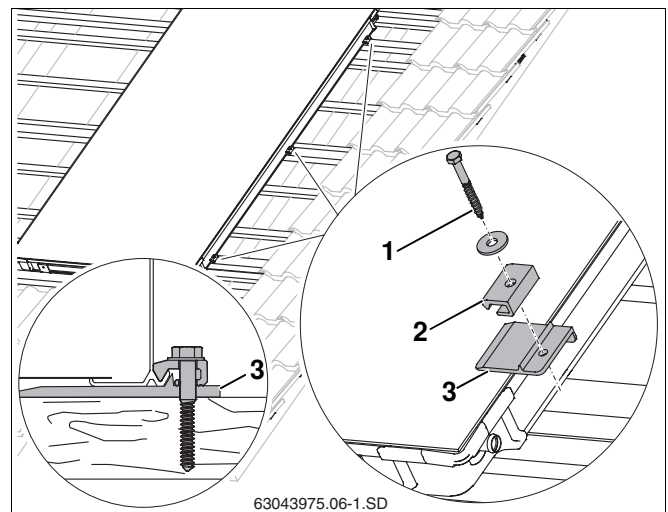

Fig. 25 Laying first collector and screwing in place
- Lift collector slightly and, on the 2nd and 3rd additional battens, as well as halfway along the collector on a free batten, push the right-hand pack plates (Fig. 25, **Item 3**) under the collector until the roof pushes against the lower edge of the collector.
- For the screw (Fig. 25, **Item 1**) drill a pilot hole with a 4 mm drill.
- Fasten the single-sided clamps (Fig. 25, **Item 2**) with a 6x40 screw (Fig. 25, **Item 1**) and washer (use size 10 spanner).